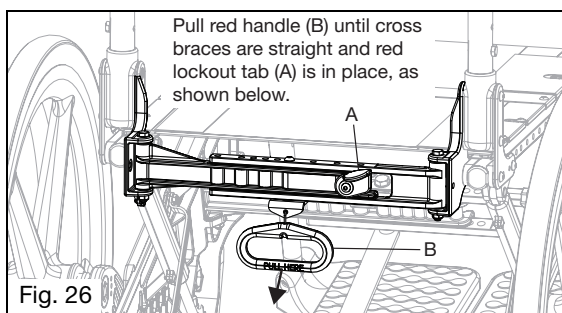

Fig. 26
d. Pull the red handle (Fig. 26:B), found under the seat, until the upper rear cross brace is straight and the red lockout tab (Fig. 26:A) springs upward and clicks into place.
e. Confirm red lockout tab (Fig. 26:A) is in place to prevent the crossbrace from folding inward.